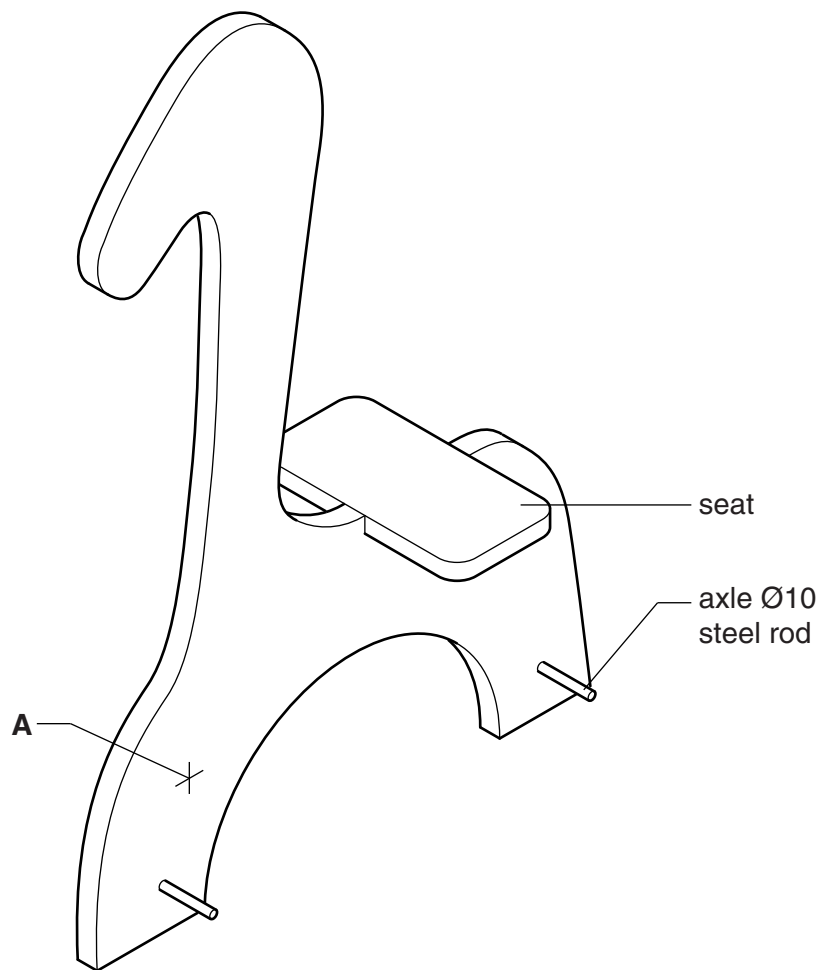

Fig. 12
- 12 Fig. 12 shows an incomplete design for a child's sit-on toy. The wheels have been removed. The sit-on toy is 700 high \times 500 wide and is made from 18 mm thick plywood.
(d) A foot rest is needed for the sit-on toy. The footrest is to be fitted at **A** in Fig. 12.